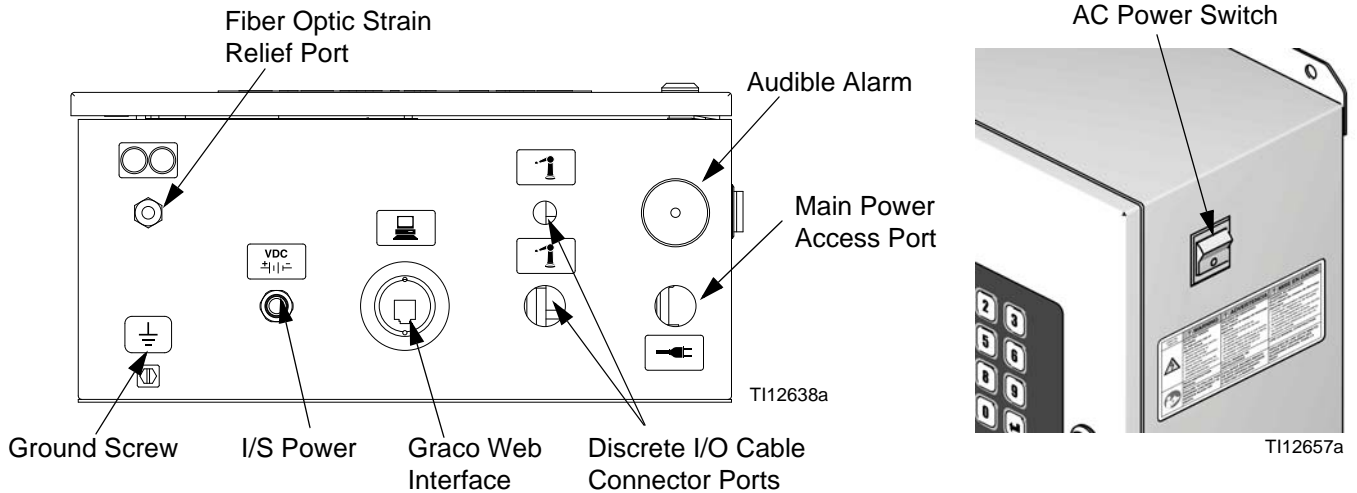

Fig. 18. EasyKey Connections and AC Power Switch
- The input power access port  is 22.4 mm (0.88 in.) diameter. It accepts a bulkhead strain relief fitting or conduit. See FIG. 18.
1. Provide power to the EasyKey. Install a bulkhead strain relief or conduit bulkhead through the EasyKey port . See FIG. 18.
1. Connect the appropriate Fluid Station Power Cable end to the EasyKey connector $\pm \text{VDC}$. See FIG. 18.
3. The Fiber Optic Cable is shipped from the factory attached to the Fluid Station connector . See FIG. 18.